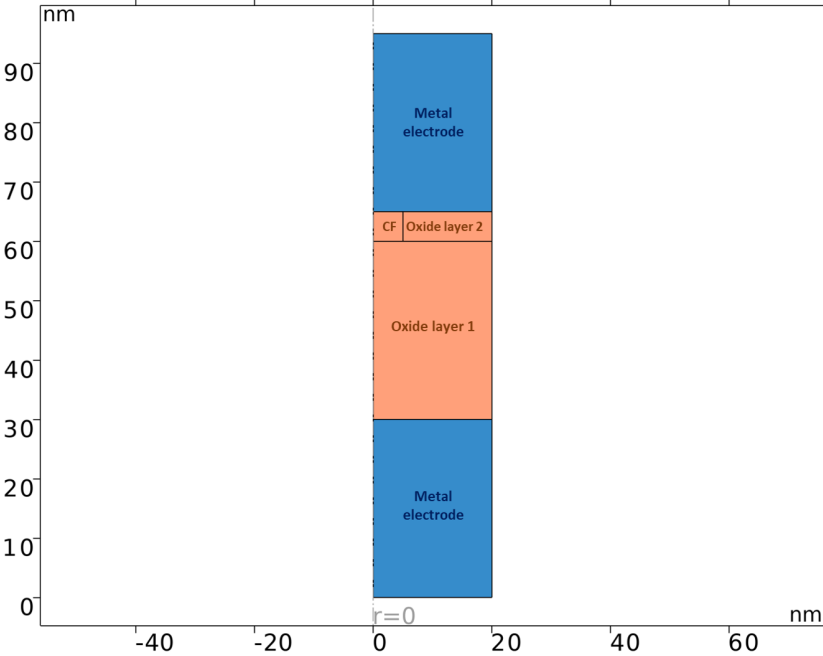

Figure 1: Configuration of the modeled memristor in a 2D-axisymmetric geometry, including metal electrodes and oxide layers.
This model adopts the approach outlined in Ref. 1 to simulate the dynamic resistive switching behavior of an oxide-based memristor. It uses a 2D-axisymmetric geometry, which enables the simulation of a 3D system through a 2D cross-sectional representation. This approach significantly reduces computational costs while effectively capturing the 3D behavior of the device. The structure consists of two oxide layers — a highly resistive layer stacked atop a low-resistivity layer — with thicknesses of 30 nm and 5 nm, respectively. These oxide layers are sandwiched between two metal electrodes, each 30 nm thick, positioned at the top and bottom. Figure 1 illustrates the configuration and geometry of the modeled memristor. The domain with a high concentration of charge carriers is identified as the conductive filament (CF), where local electrical conduction exhibits metallic behavior. The concept of CF formation and rupture has been employed to explain resistive switching behavior. The material properties, such as electric conductivity and thermal conductivity for each domain, are defined according to the approach described in Ref. 1. The dynamic resistive switching behavior of the modeled memristor is governed by oxygen vacancy drift–diffusion, current continuity, and heat transfer, along with their fully coupled multiphysics interactions. The model utilizes the Joule Heating interface to